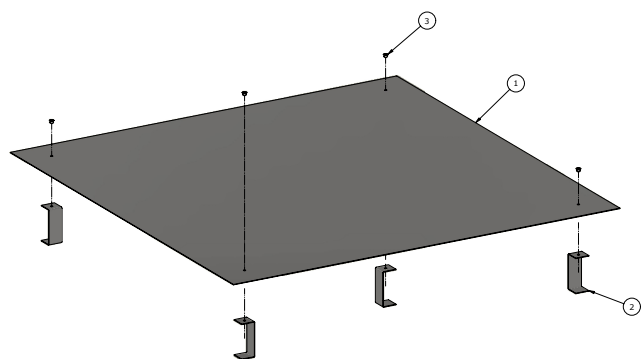

Figure 9: SD5/S Light Baffle Plate/Leg for Square Swirl
- Rivet Item (2) to Item (1) using provided rivets (3) as figure 9